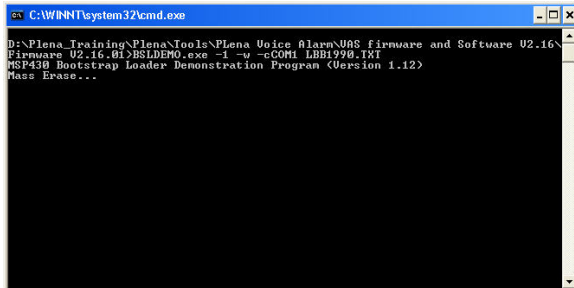

Figure 7 – Firmware upgrading in progress
- 8) A Dos box (figure 7) appears which informs you about the upgrade process. If it fails, please repeat the upgrade procedure. The system will not be damaged, but it won't work correct as long as the firmware is not completed correctly.